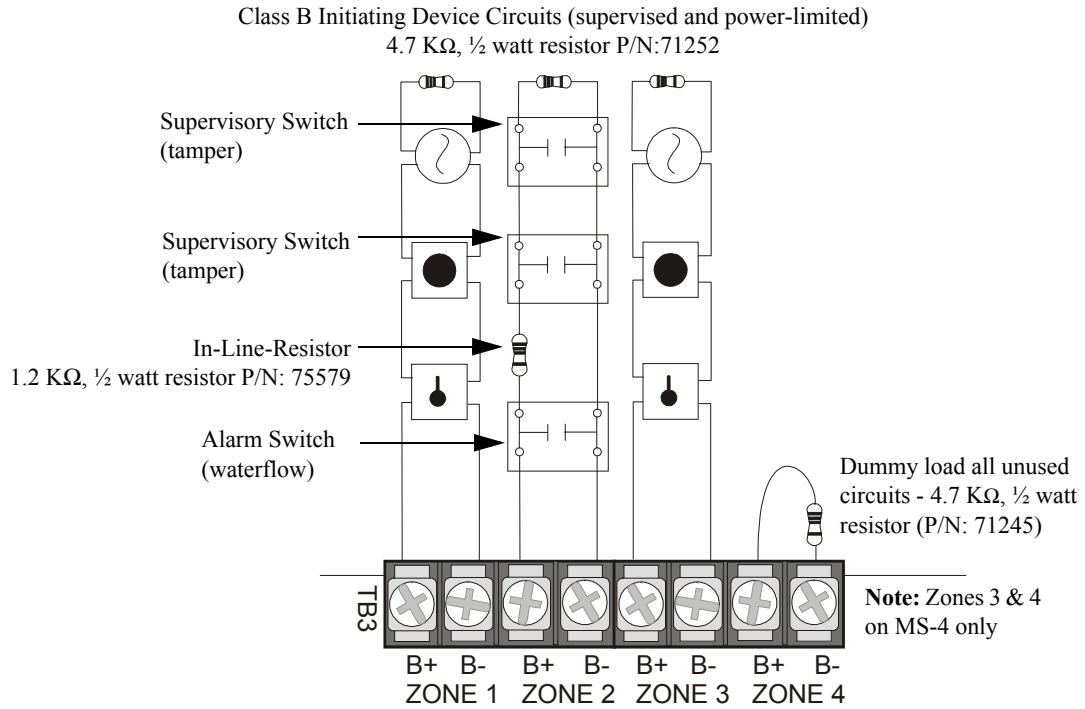

Figure 2.5 Style B Combination Circuit on Zone 2 of the MS-4
- ✓ The Waterflow Alarm Switch(es) must connect to the FACP Initiating Device Circuit before the In-Line Resistor as shown in Figure 2.5
- ✓ The Waterflow Supervisory Switch(es) must connect to the FACP Initiating Device Circuit after the In-Line Resistor as shown in Figure 2.5